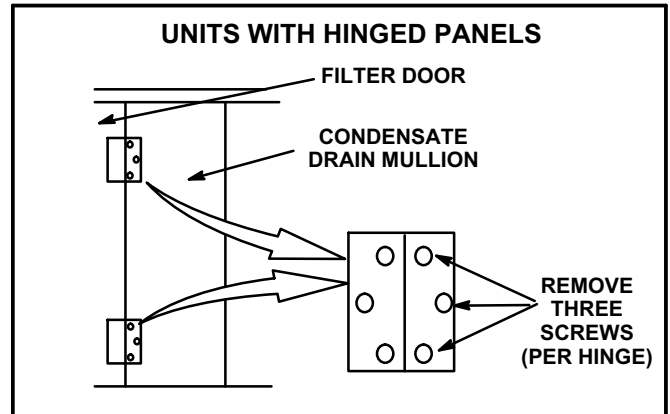

FIGURE 6
- 2- Remove six screws from filter access door. Refer to figure 6.